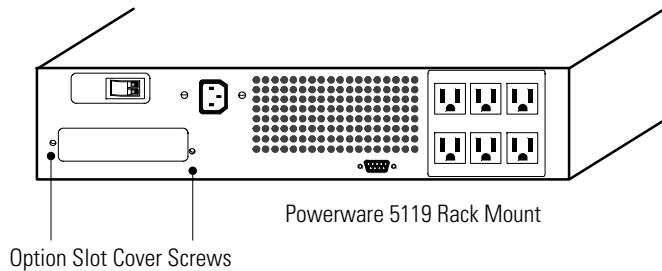

Figure 3. Removing the Option Slot Cover
1. Remove the option slot cover on the UPS rear panel. Retain the screws (see Figure 3).